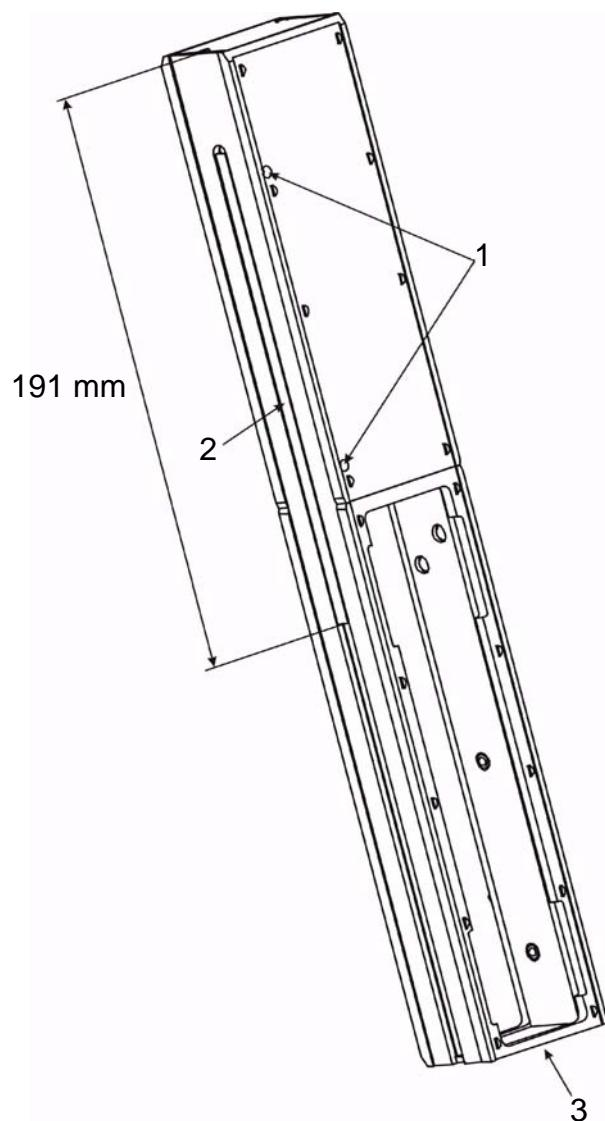

Fig. 5:67 STM cuvette
6. The lower end of the new cam thread **2** should be placed 191mm from the top part of the cuvette see Fig. 5:67.